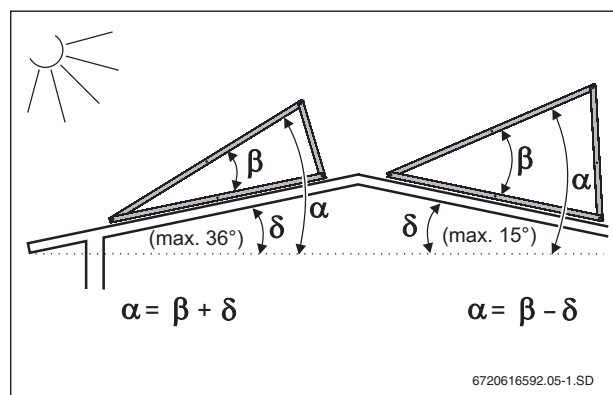

Fig. 10 Angles for sloped roofs
- ▶ Only install the installation kit on roofs with an incline of 0 - 36 ° (12/9 pitch) or negative 0 - 15° (12/3 pitch), see Fig. 10 for details.